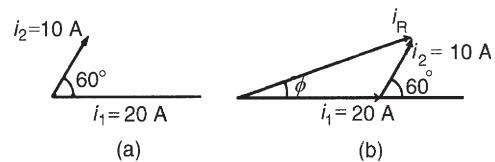

Figure 14.12
- (a) The relative positions of  $i_1$  and  $i_2$  at time  $t = 0$  are shown as phasors in Fig. 14.12(a). The phasor diagram in Fig. 14.12(b) shows the resultant  $i_R$ , and  $i_R$  is measured as 26 A and angle  $\phi$  as  $19^\circ$  or 0.33 rads leading  $i_1$
- (b) From Fig. 14.12(b), by the cosine rule: